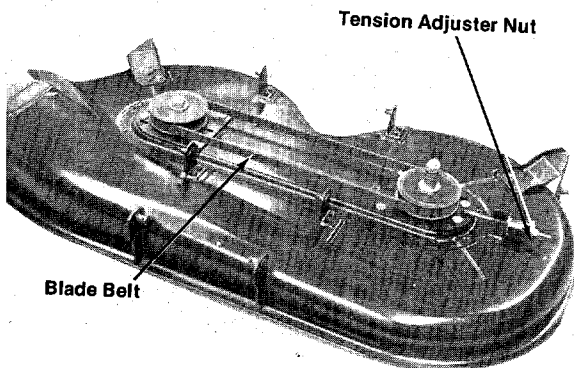

FIGURE 34
4. Loosen the tension adjusting nut. (See figure 34.)